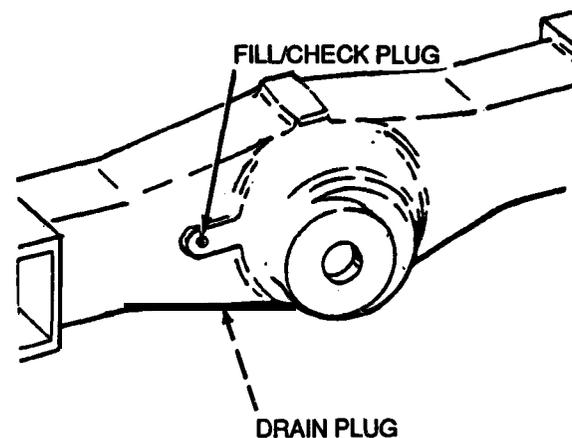

Figure 3-10
9. Remove drain plug at the bottom of differential housing and drain oil completely (Figure 3-10).